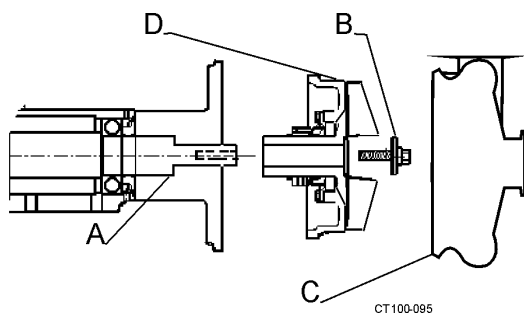

Figure 25 - Removing the Impeller Assembly
4. Remove casing clamp and casing (Figure 25, item C). Slide O-ring off of backplate.
5. Remove impeller retainer bolt and shaft O-ring (Figure 25, item B).
6. Pull impeller/backplate assembly off bearing housing shaft (Figure 25, items D and A).